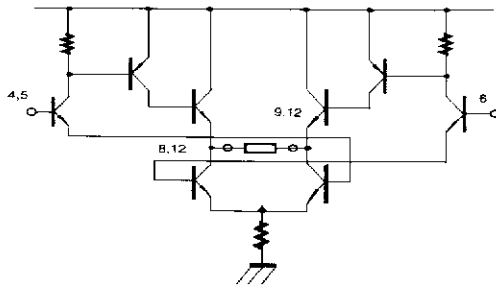

Fig. 6
2. Concerning about the output current flow, if Pin 4 voltage is high relative to Pin 6, an output current resulted from the voltage difference flows from Pin 8 to Pin 9. If Pin 6 voltage is higher than Pin 4 conversely, output current flows from Pin 9 to Pin 8. If Pin 5 voltage is higher than Pin 6, an output current resulted from the voltage difference flows from Pin 12 to Pin 11. When Pin 6 voltage is higher than Pin 5 conversely, output current flows from Pin 11 to Pin 12. (Fig. 6)